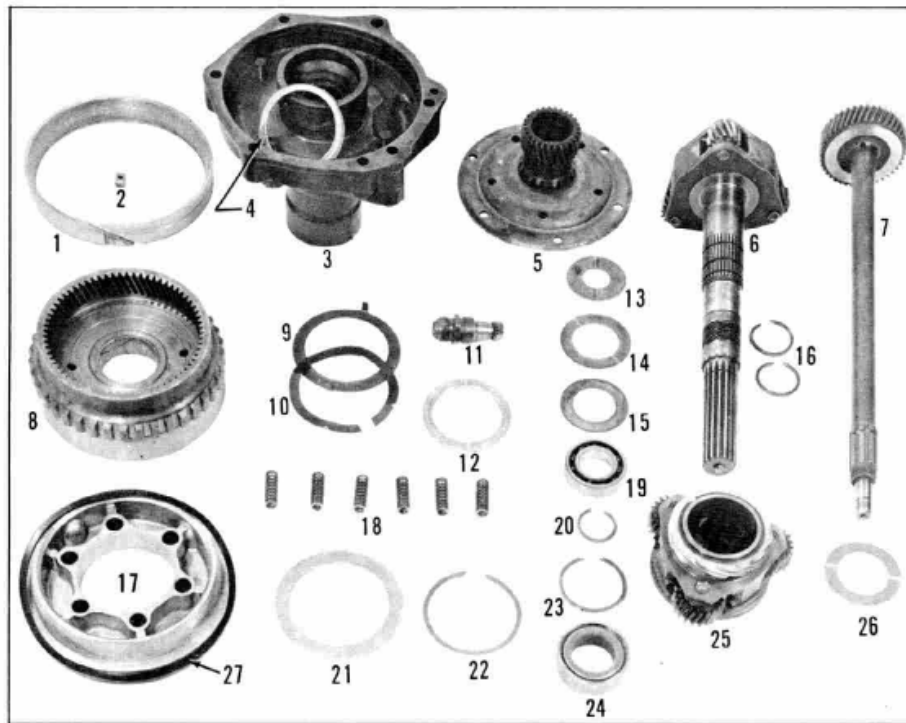

Figure 28
11. Inspect internal gear thrust washer (12), Figure 28, for wear or scoring.
12. Inspect reverse clutch release spring (10) and retainer (9) for signs of damage or burning.
*NOTE: Spring (10) is used to centralize reverse internal gear cone when clutch is released.*
*The reverse stationary cone is held stationary by a key (2) which indexes with a slot in the case.*